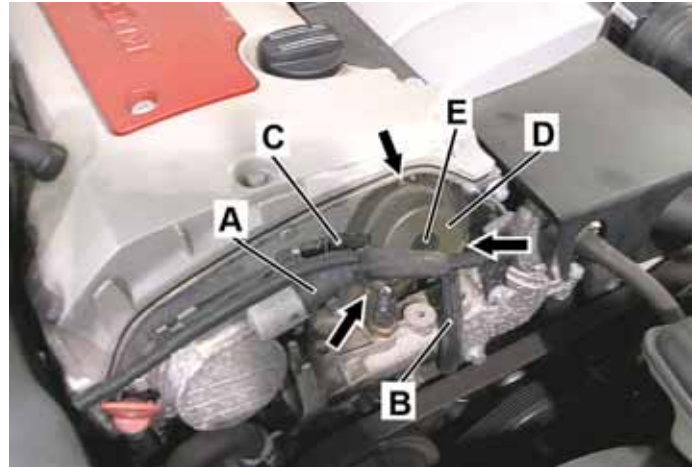

Figure 3
1. Disconnect vacuum hose connector (A, Figure 3) from vacuum pump fitting.
2. Bend vacuum line (B, Figure 3) away from camshaft solenoid (D) enough to allow clearance for removal of camshaft solenoid (D).
3. Disconnect engine harness connector (C, Figure 3) from camshaft solenoid (D).
4. Remove 3 bolts (arrows, Figure 3) securing camshaft solenoid (D) to engine then remove camshaft solenoid (D).
5. Install new stop plug (E, Figure 3) into new camshaft solenoid (D).
6. Apply sealing material to new camshaft solenoid (D, Figure 3) then install in reverse order (tighten bolts to: 8 Nm).